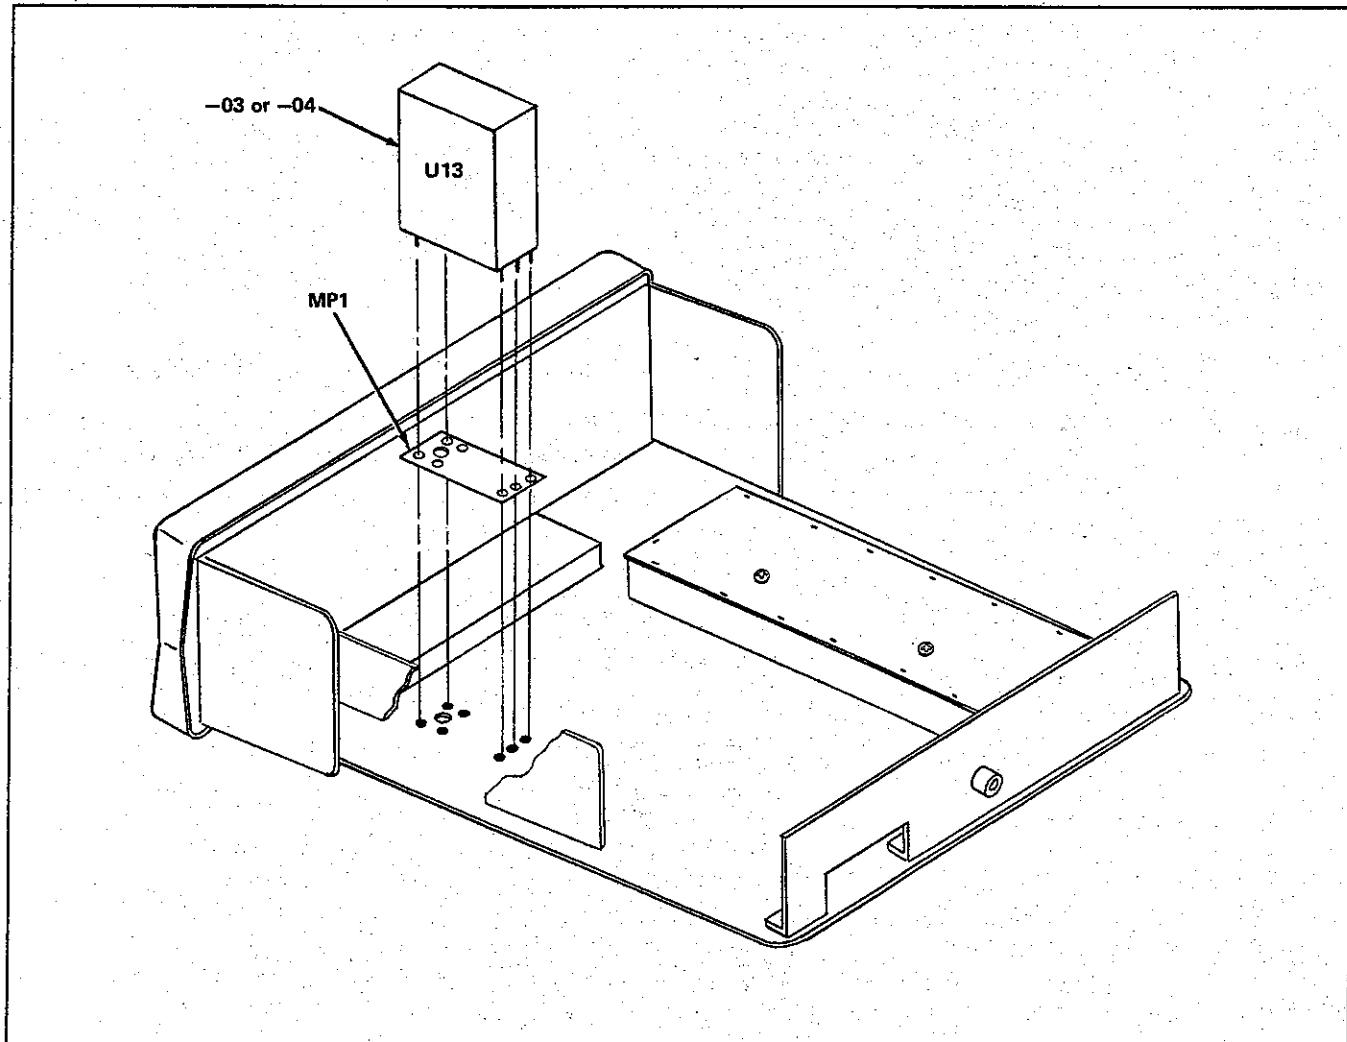

Figure 603-2. -03/-04 TCXO Assembly
- 603-6. The —03 TCXO is a completely sealed unit, containing no replaceable parts (See Figure 603-2).
604-6. The —04 TCXO is a completely sealed unit, containing no replaceable parts (See Figure 603-2).